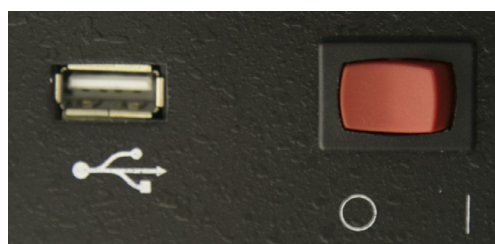

Figure 2-12 Front USB and On switch
1. Press the red switch, next to the front USB port, to the ON position to boot up the system (Figure 2-12).